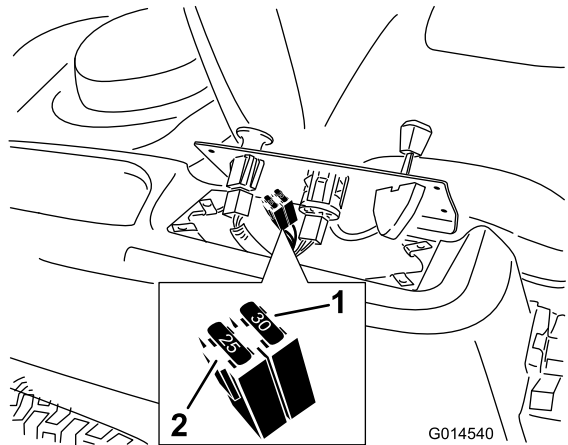

Figure 40
- Lift the control pane up to access the main wire harness and fuse block (Figure 40).
- To replace a fuse, pull out the fuse to remove it (Figure 40).